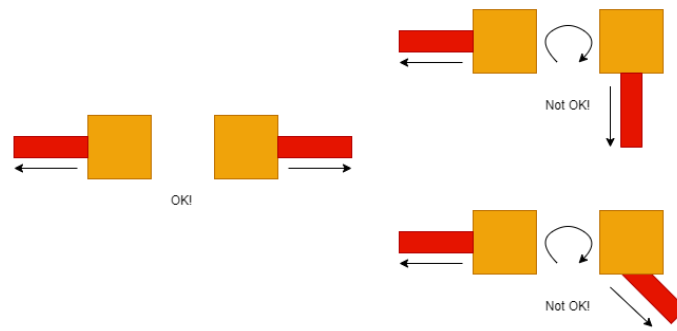

Figure 1. Tracing guide
- Traces going in to SMD pads should be pairwise co-linear when possible to counteract rotation when reflow soldering. See fig. 1.